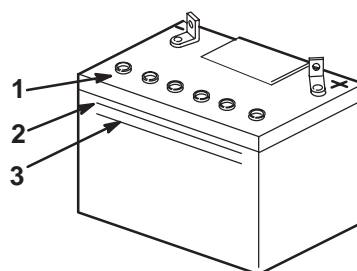

Figure 39
2. Look at the side of the battery. The electrolyte must be up to the **upper** line (Fig. 39). Do not allow the electrolyte to get below the **lower** line (Fig. 39).
3. Remove the vent caps from the battery (Fig. 39).
4. Slowly pour distilled water into each battery cell until the level is up to the **upper** line (Fig. 39) on the battery case.
5. Wait five to ten minutes after filling the battery cells. Add distilled water, if necessary, until the electrolyte level is up to the **upper** line (Fig. 39) on the battery case.